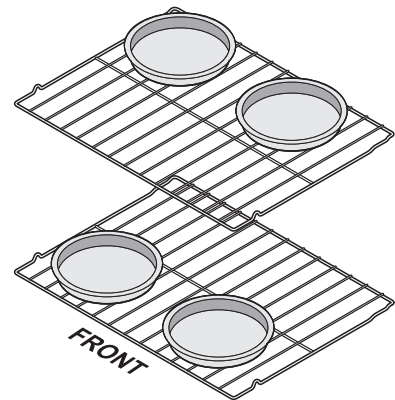
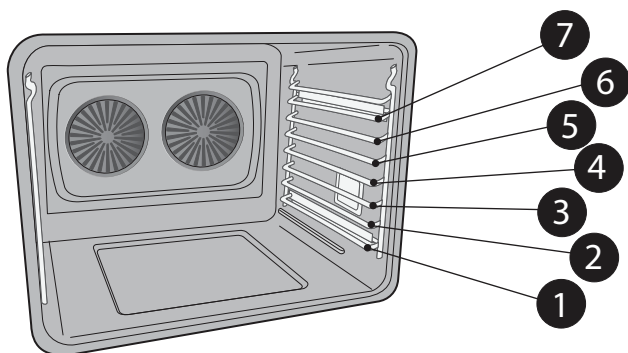

Figure 21: Pan spacing for convection baking
Figure 22: Rack positions
- When baking cakes using two oven racks, place bakeware in positions 6 and 1 (Figure 22) and place pans as shown in Figure 21.